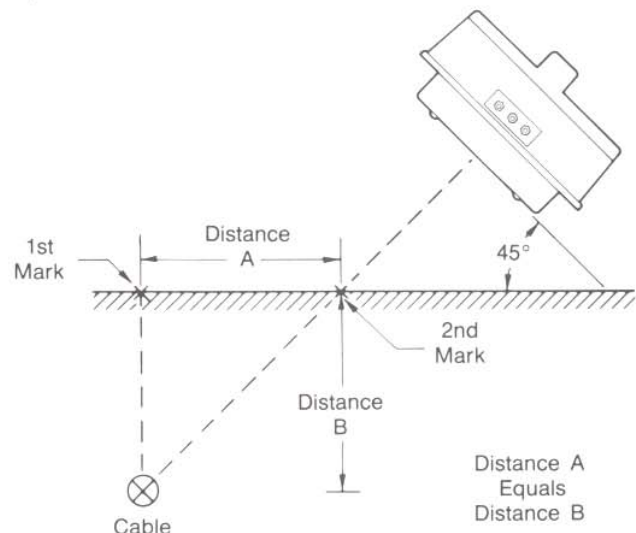

Fig. 25 — Determining Cable Depth - Triangulation
- 1) With the receiver in NULL mode, mark a point on the cable path (Fig. 25 [1]).
- 2) Hold the receiver so the handle is parallel to the cable path and tilt it so the bottom is at a 45° angle relative to the ground (Fig. 25 [2]).